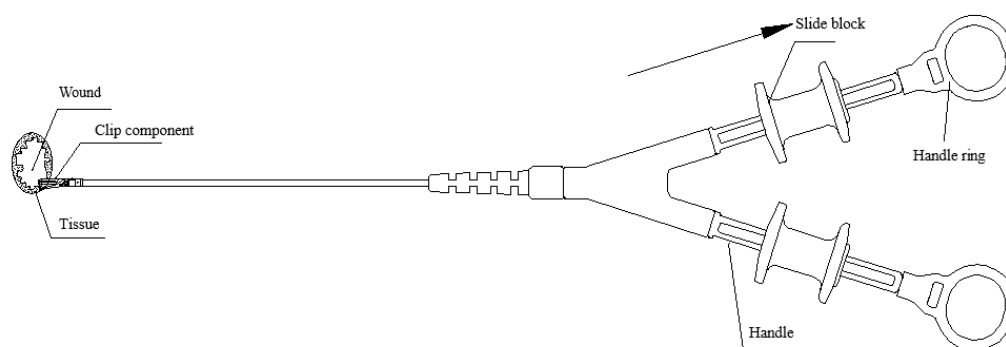

Fig 4 Clamping
A. Close Disposable Dual Action Tissue Closure Device at the required position, and slowly move the slide block to the direction of the handle ring until there is resistance on the handle, so that Disposable Dual Action Tissue Closure Device is gradually closed, but not released; if it is found that the position is not good at this time, you can re-open the clip until the clamping of the tissue is completed. (as shown in Fig 4)